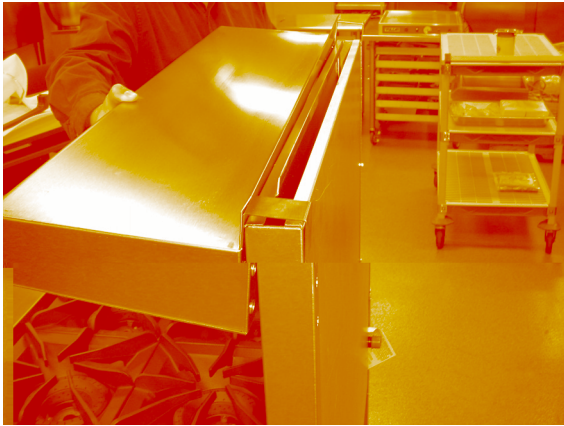

Fig. 7
8. Lift the plate shelf and hang this onto the top of the backsplasher (Fig. 7).